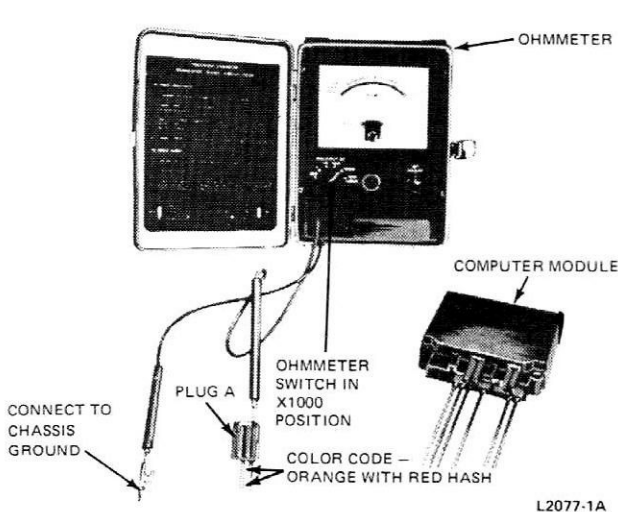

FIG. 10 Testing Sensor Circuit Leakage to Ground
3. Connect an ohmmeter between chassis ground and either pin of the sensor connector (Fig. 10). Resistance should be infinite.